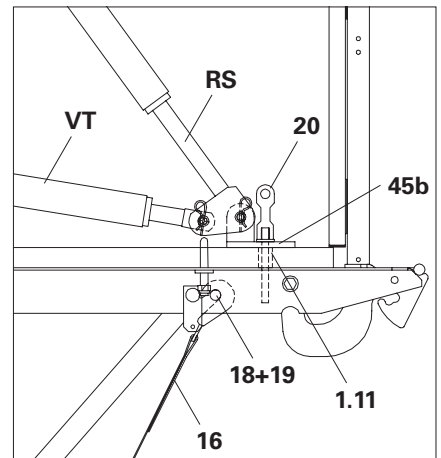

Fig. B2.04c
1. Bolt Base Plate-2 for RSS (45b) into the rear multi-purpose connector (1:11) with Push-Pull Prop Bolt FB (20).
2. Secure Push-Pull Prop RSS and Kicker AV with bolts and cotter pins. (Fig. B2.04c)